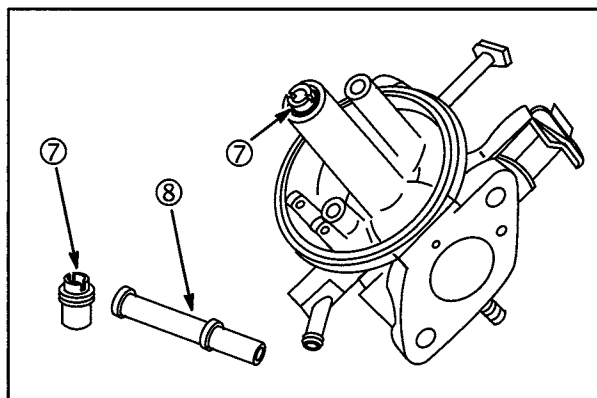

Fig. 25
4. Remove fixed main jet (7) using Screwdriver #19062, Fig. 25.
5. Reach into carburetor throat with flat blade screwdriver and push down on end of emulsion tube (8).